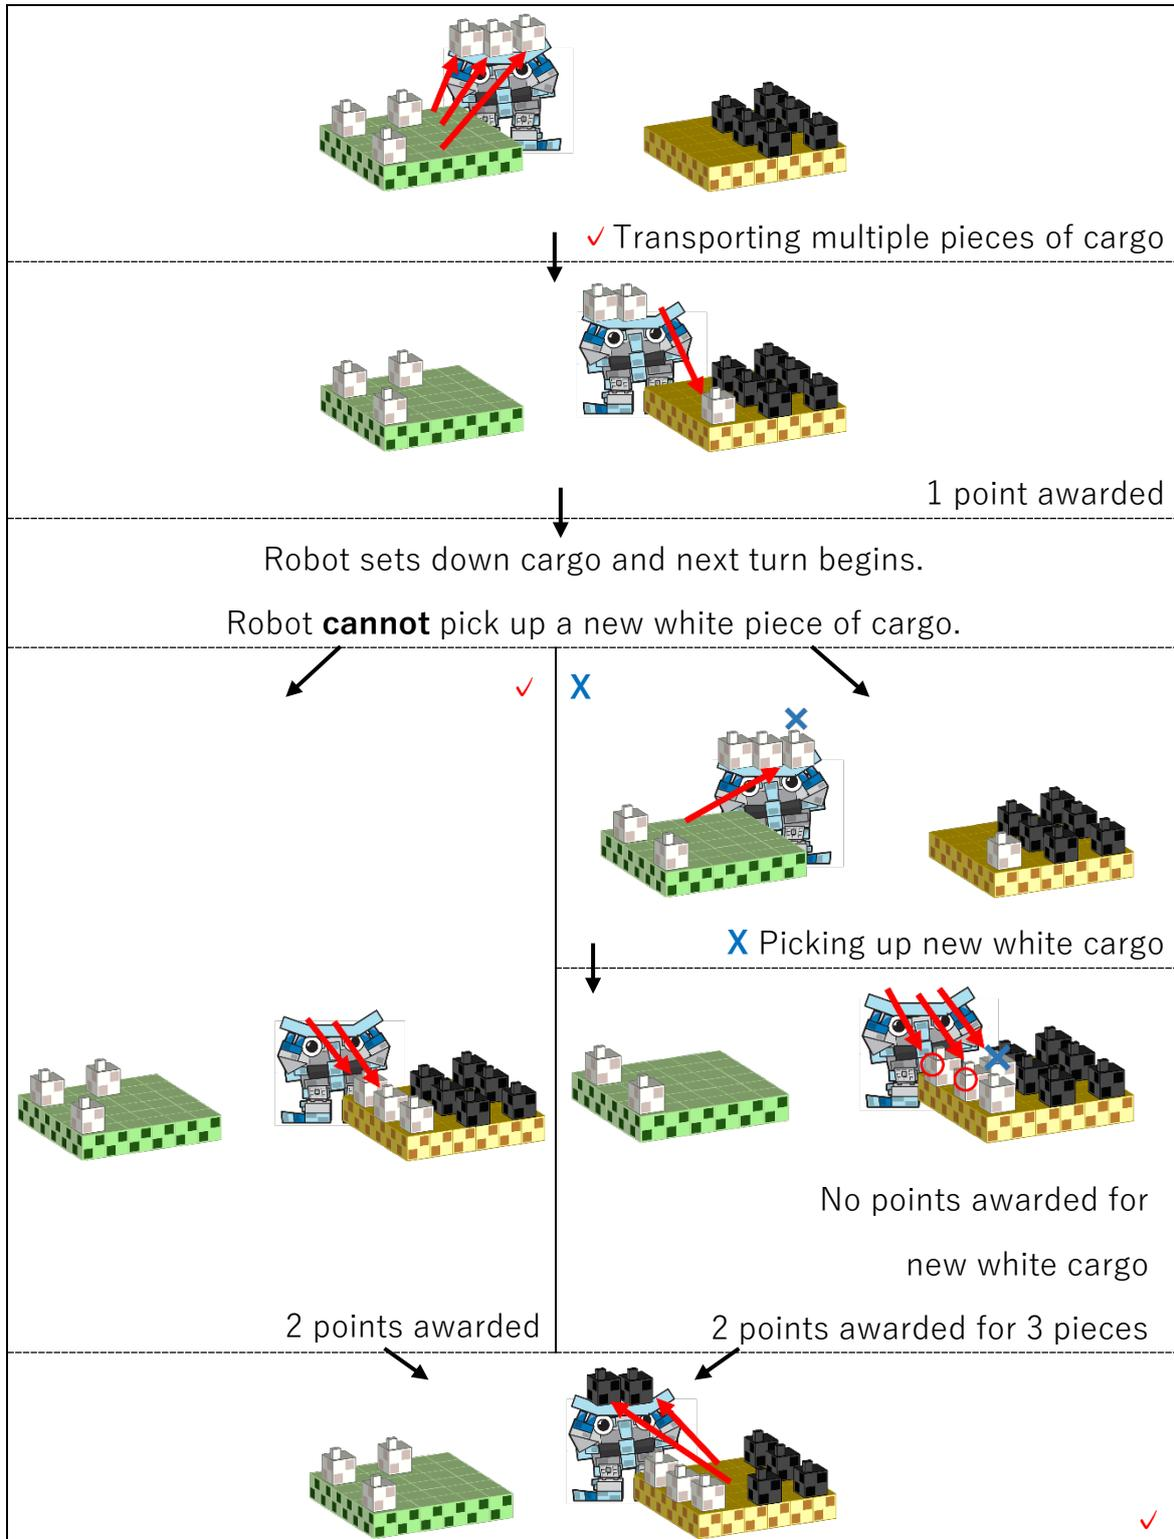

Fig 5. Delivering multiple pieces of cargo
- 10) Multiple pieces of cargo can be transported during one turn, as long as they're of the same color. The next turn will begin once this cargo has been transported, meaning that the robot will have to transport cargo of a different color. The robot will still be allowed to set down any cargo it is currently transporting (see **Fig. 5**)